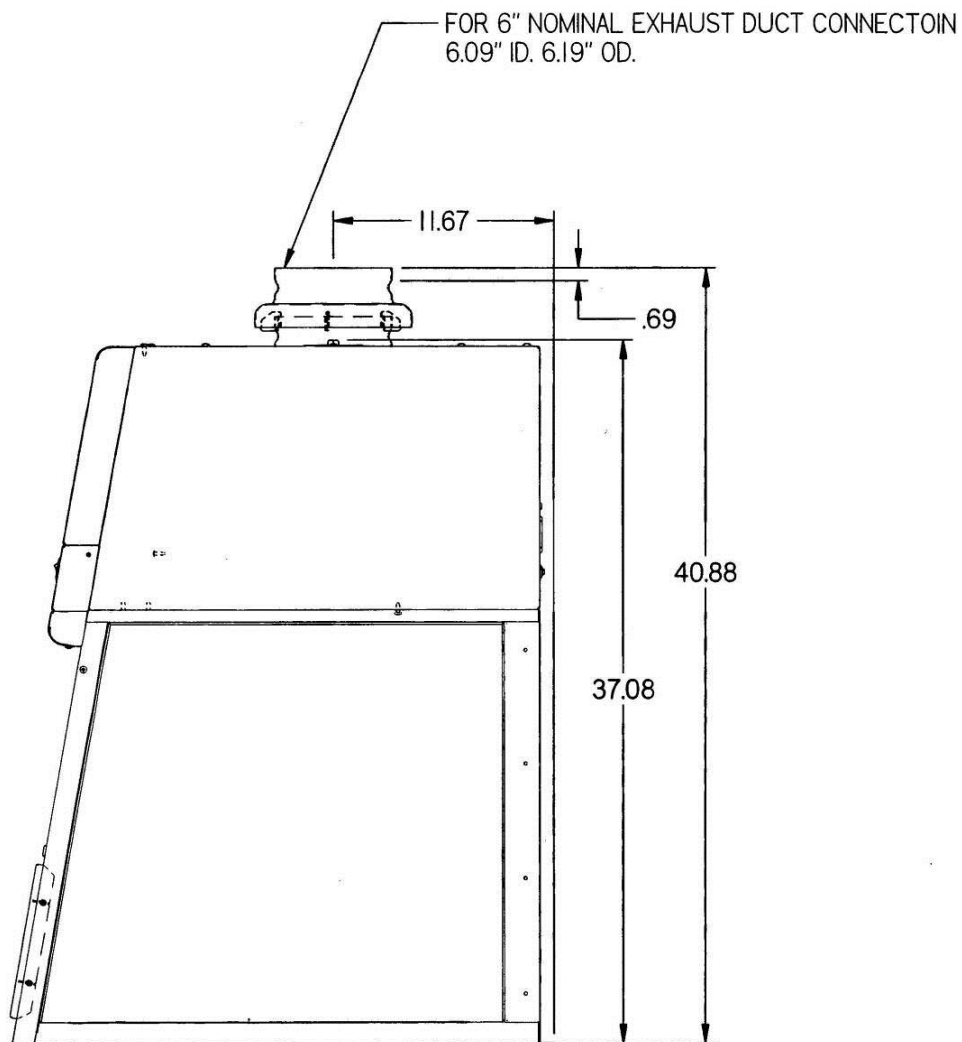

Figure 3-2
Thimble exhaust connection aids in the removal of chemicals or applications where a higher degree of biohazard and particulate removal is required. See Chapter 7 for ordering thimble exhaust for the Purifier HEPA Filtered Enclosure or Purifier Class I Enclosure. Both 6" for house exhaust and 5" for connection to a FilterMate Portable Exhauster are available. Review Chapter 2 for exhaust prerequisites and review Chapter 7 for ordering blower exhaust equipment. See figure 3-2 and figure B-2 for thimble exhaust on Purifier filtered enclosures.
25. **Accessory Thimble Exhaust Connections** are available to duct the Purifier Class I Enclosure and Purifier HEPA Filtered Enclosure to the outside. The Thimble Exhaust Connection allows the operator additional protection from hazardous fumes or vapors and should be used if the carbon filter capacity is not adequate. Each Thimble Exhaust Connection includes an epoxy-coated steel exhaust transition adapter designed for 6" diameter nominal duct. See Figure 3-2 in Chapter 3 and figure B-2 in appendix B.